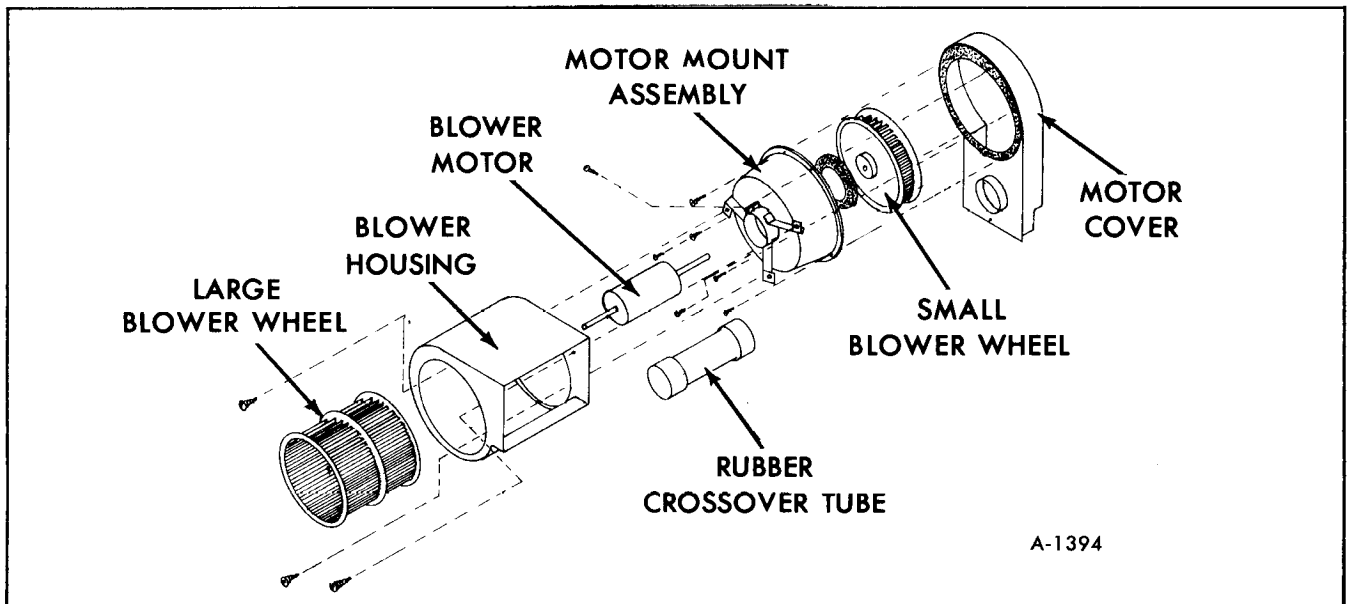

Figure 28—(NT-32G) Blower Assembly
## BLOWER ASSEMBLY (NT-32G) (FIGURE 28)
7. Remove three screws and nuts holding large blower wheel housing (Shown in figure 28).
10. Remove small blower wheel (1/8" Allen wrench) (Figure 28).
2. Install small blower wheel (figure 28).
4. Install large blower wheel housing to motor housing brackets (See figure 28) (3 screws and nuts).